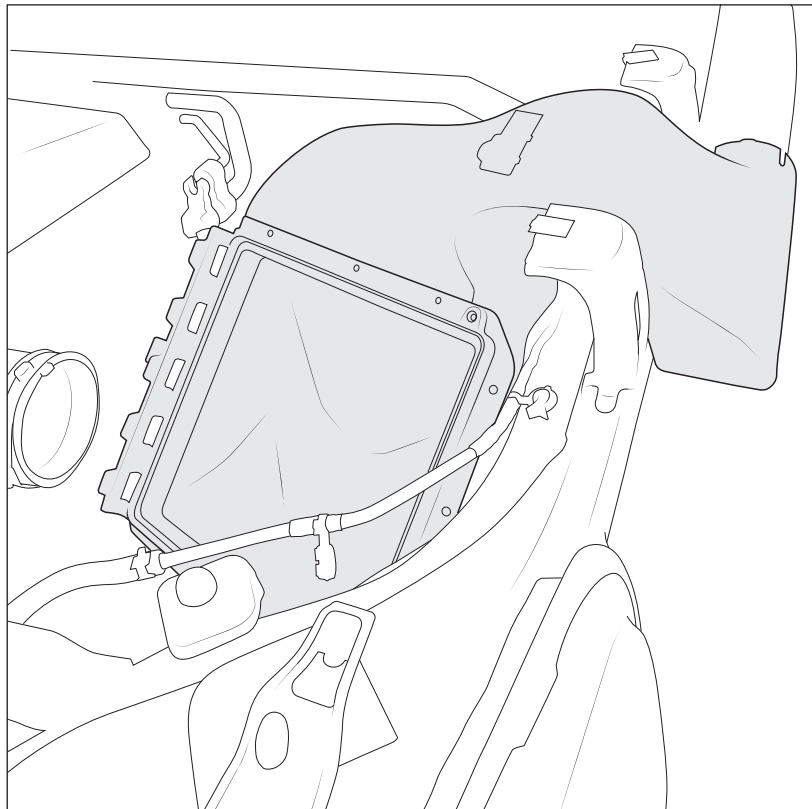

Figure 10
- 2. Install Airbox into Vehicle (fig. 10):